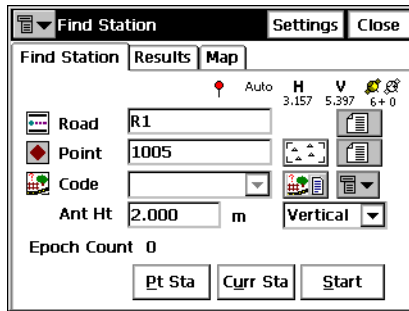

Figure 6-18. Find Station.
2. Enter the road, the name, and the code of the point and the antenna height and type (Figure 6-18 on page 6-17).